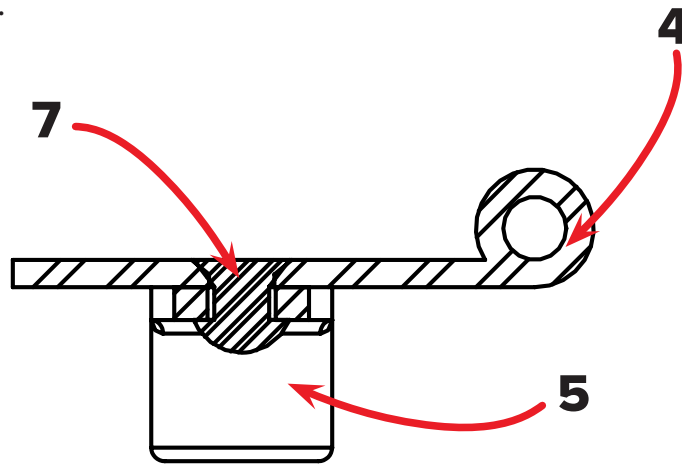

FIGURE 3-15- ANCHOR NUTS RIVETED ON THE 1/2 HINGE
- 29.INSPECT the riveting operation of the Rivets (7) is in accordance with figure 3-15;
- 30.JOIN by means of Pin (2) to $\frac{1}{2}$ Hinge (4) with the Anchor Nuts (5), with the respective $\frac{1}{2}$ Hinge (4), this only with the $\frac{3}{16}$ inch hole;
- 32.INSPECT the Hinge Sets (8), according to Drawings **VOPR0008** and **VOPR0008**;
35. PACK all Hinge Set (8), if necessary for future installation of the **V400** aircraft.